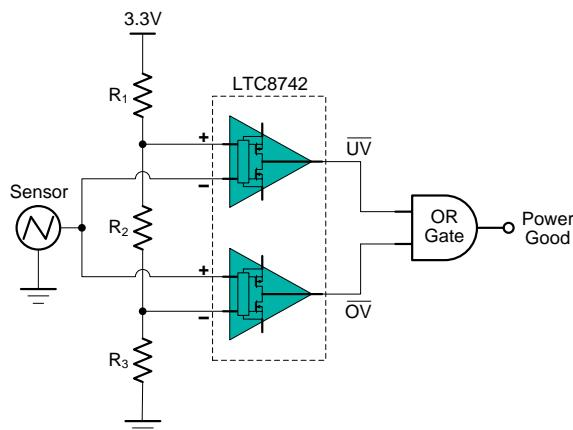

Figure 6. Window Comparator
Window comparators are commonly used to detect undervoltage (UV) and overvoltage (OV) conditions. Figure 6 shows a simple window comparator circuit.
Configure the circuit as shown in Figure 6. Connect $V_{\text{S}+}$ to a 3.3-V power supply and $V_{\text{S}-}$ to ground. Make R_1 , R_2 and R_3 each $10\text{-M}\Omega$ resistors. These three resistors are used to create the positive and negative thresholds for the window comparator ($V_{\text{TH}+}$ and $V_{\text{TH}-}$). With each resistor being equal, $V_{\text{TH}+}$ is 2.2 V and $V_{\text{TH}-}$